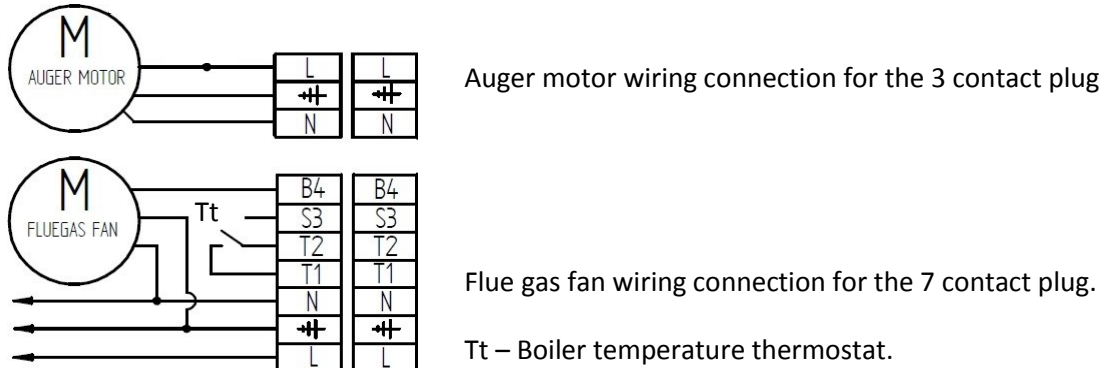

Figure 13 Electrical wiring
- Boiler thermostat is connected to the burner (Figure 13).